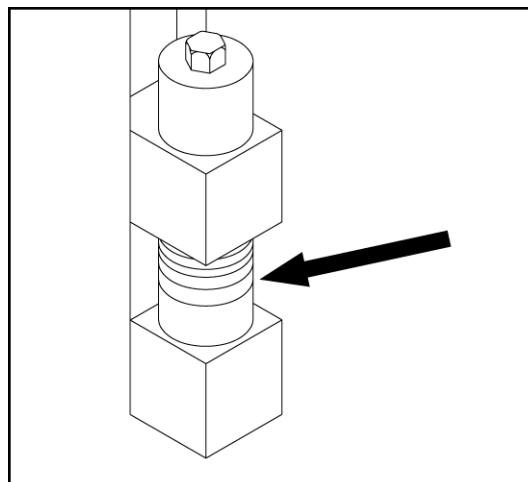

Figure 4.37 83MM [3 1/4"] OF SPACERS
- e. Store spacers on bottom side of bolt for front bolts and left hand rear bolt. For right hand rear bolt, store spacers on top. Tighten bolts at all 4 corners that secure mold throat plate spacers. (See figure 4.37).